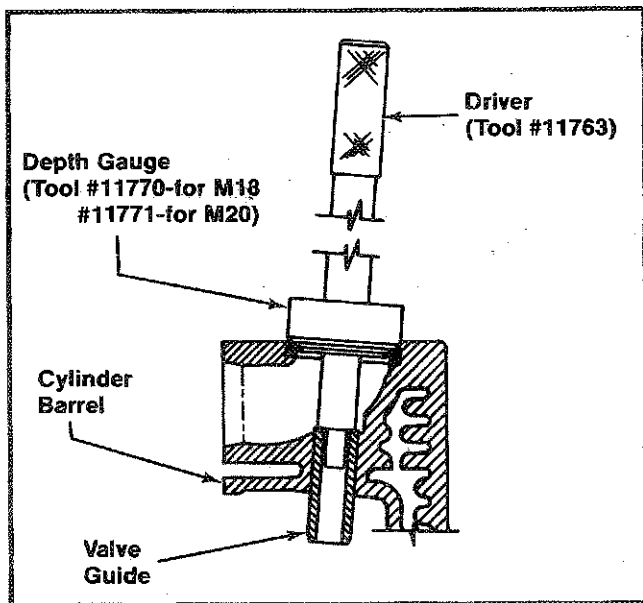

Figure 10-7. Installing Valve Guide.
- Using valve guide driver (Refer to Section 2, Special Tools), align and then press guide in until valve guide driver bottoms on depth gauge. See Figure 10-7.